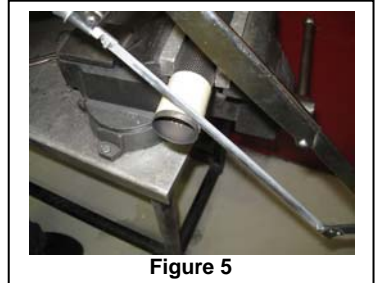

Figure 5
11. For clearance, remove 1/4" off the end of the perforated steel tube using the hacksaw as in **figure 5**